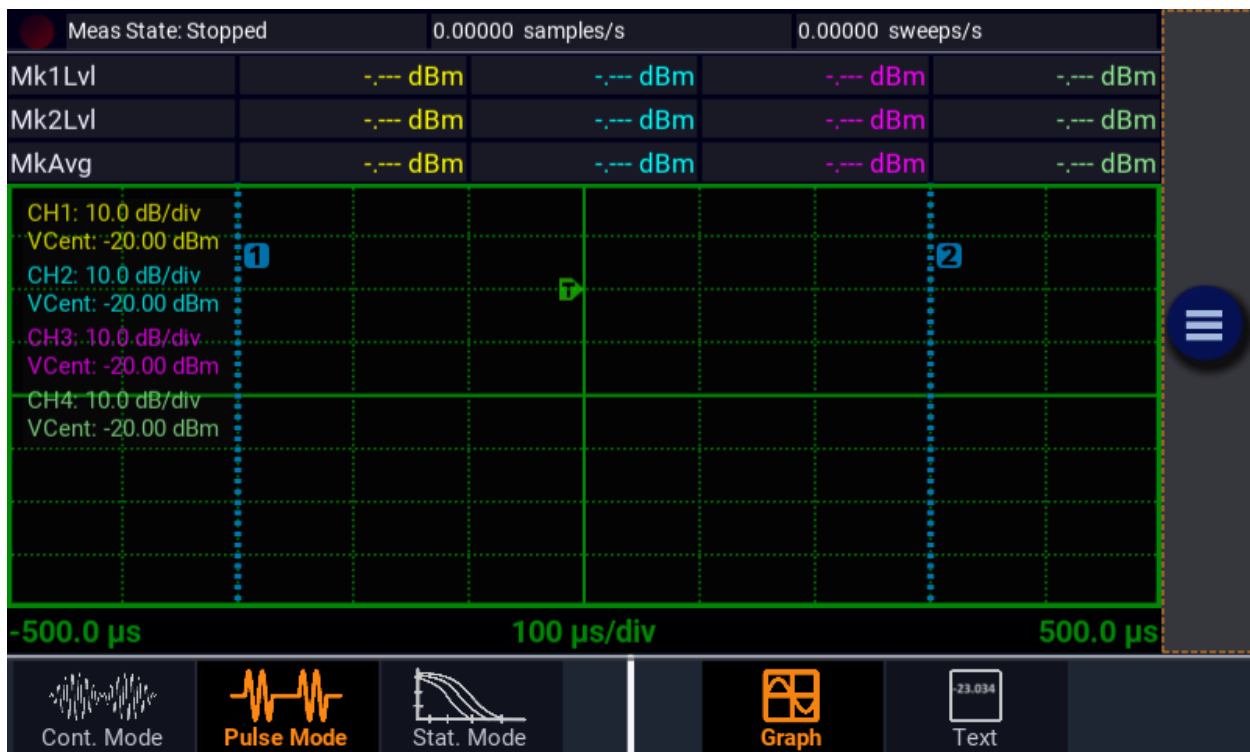

Figure 2-2. Typical Power-On Display
5. A bootup screen should appear that shows the boot status. After a self-check, the instrument will execute the application program. There will be some temporary dialogs indicating application initialization and channel updating. After several moments, a screen similar to Figure 2-2 should be displayed.